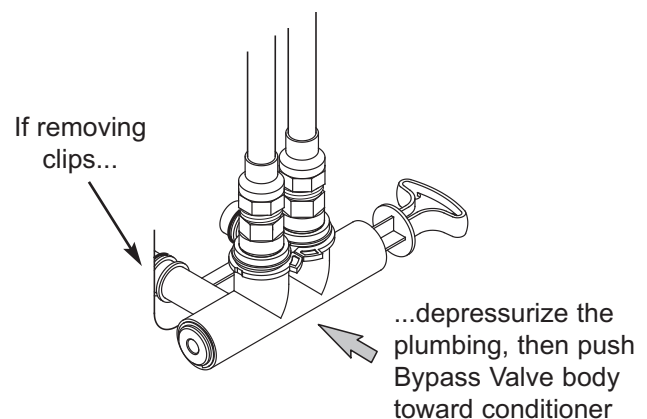

FIG. 14
7. Check for leaks around clips at conditioner's inlet and outlet. If a leak occurs at a clip, depressurize the plumbing (turn off the water supply and open faucets) before removing clip. When removing clips at the conditioner's inlet or outlet, push the single bypass valve body toward the conditioner (See Figure 14). Improper removal may damage clips. Do not reinstall damaged clips.